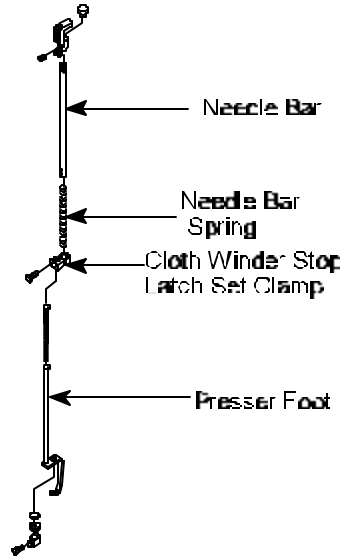

Figure 5
16. **Insert** new needle bar through Cloth Winder Stop Latch Set Clamp. See Figure 5.